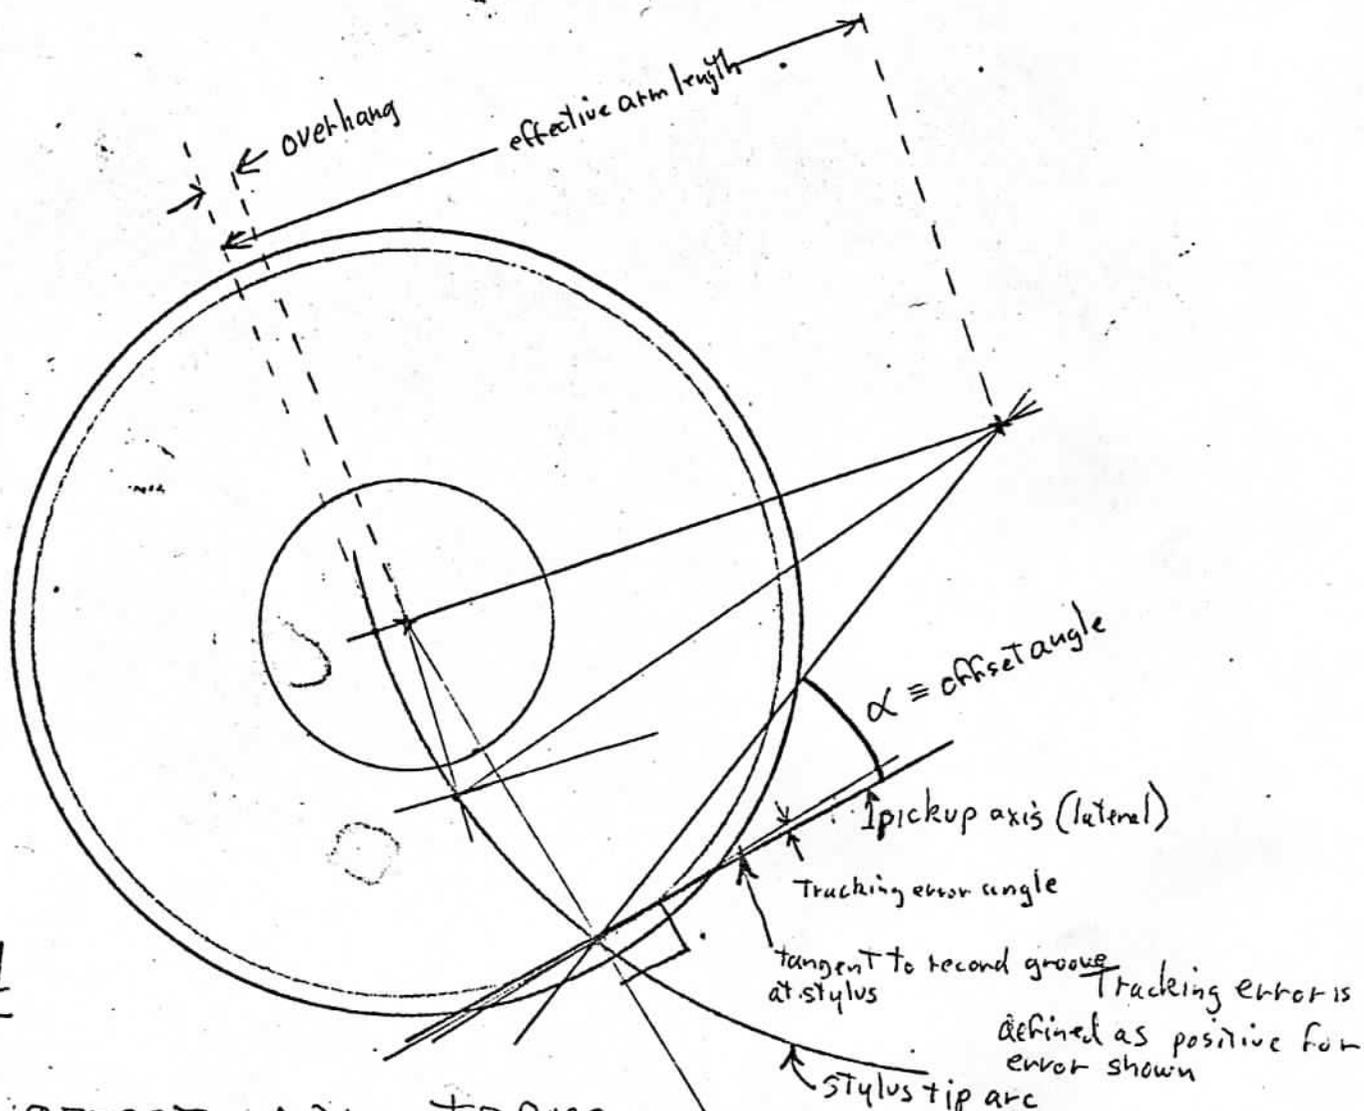

Fig 1
Reference is made to the attached drawing for definitions and to assure that the correct measurement is performed. The procedure described deals with the real situation presently found in the audio equipment available at all price levels at the time of this memorandum (April 1977). None of the arms we have seen are of the correct offset angle design nor are the best instructions given for obtaining the optimum performance in each case given the design deficiencies. The purpose of this memo is to permit each case to be fully optimized in spite of the apparent deficiencies of the designs. In order to accomplish this it is necessary to twist the pickup in the mounting whether a demountable head shell or a fixed head arm. It is also necessary to be able to set the pickup to the optimum overhang in order for the approach to work. So, determine just how this will be possible in each case before starting the procedure. Many arms permit the pickup to slide back and forth in the shell, and the arm mounting base in the case of the separate arm/TT systems can also be varied in position. The basic parameter that determines the setup conditions is the "effective arm length". Consult Fig 1. Note that this is the length of the arc that the stylus swings on as the arm moves across the record. This length should be measured carefully with a precision rule as an error of less than 0.02 inch should be obtained. We recommend that two narrow flexible machinists scales be used for this. The Starrett 6" type C305R and the 12" C316R are quite good for this use. The ruling is fine enough to serve being in .01 and .1 inch graduations.
- Step 1: Mount the pickup not fully tightened and measure effective arm length. (see fig 1).